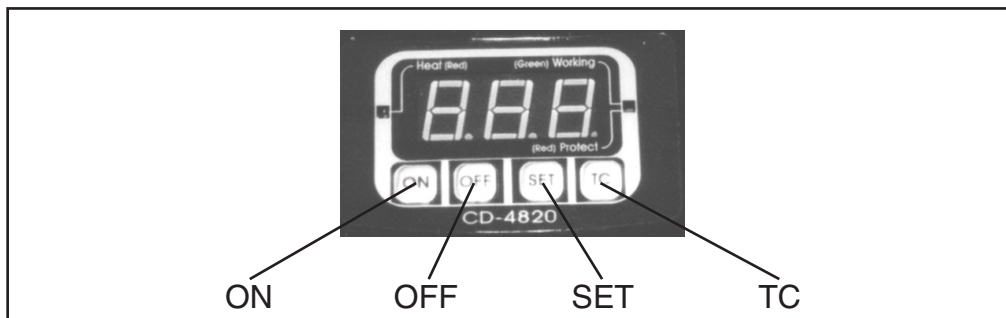

Figure 1
2. Press "SET" to choose a cleaning cycle-see Figure 1. Press "ON" to begin the cleaning cycle. A green light on the readout will light up, indicating that the cycle is on. The time displayed on the LCD readout is the time remaining for the cycle to run. The unit will automatically turn itself off when the readout reaches zero.